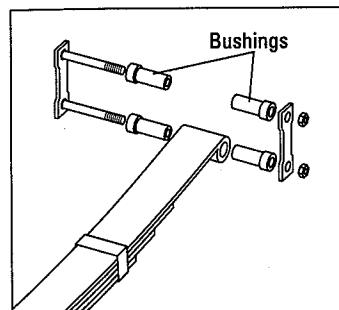

Figure 16-6:
- ✓ **Leaf springs:** Each end of a set of leaf springs is attached to the frame at the rear of the car with fittings that enable the springs to bend and move freely. These fittings usually have rubber bushings that enable the fittings to bend and twist freely and also absorb some of the vibration and prevent it from reaching the passenger compartment (see Figure 16-6). If your leaf springs have more than one leaf per side, called *multiple leaf springs*, there may be a piece of plastic between the leaves. That plastic, called a *slipper*, can be lubed with suspension grease to prevent noise as the leaves slide over one another during jounce and rebound.